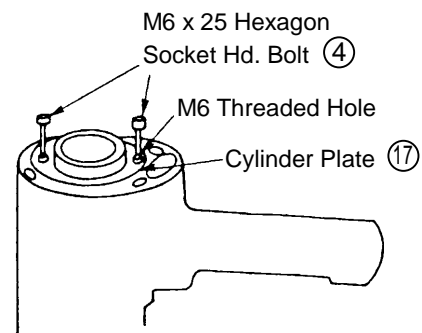

Fig. 10 Removal of cylinder plate
- As illustrated in Fig. 10, screw two of the M6 x 25 Hexagon Socket Hd. Bolts (4) partially into their matching holes on the Cylinder Plate (17). Using the bolts, pull the Cylinder Plate upward while turning it to remove it from the Body.